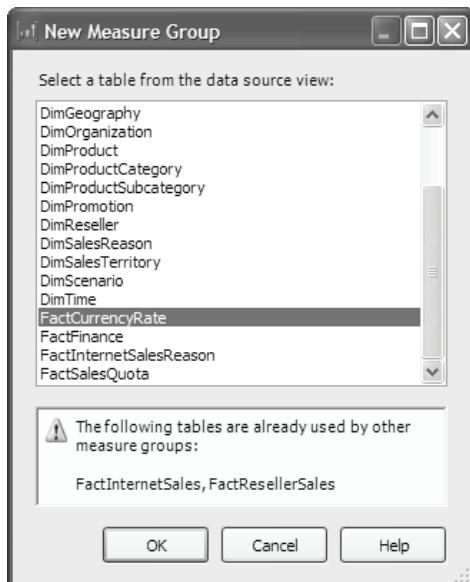

Figure 4.45 A new measure group can be created from an existing fact table.
1. Right-click anywhere inside the Measures pane and choose *New Measure Group*. The New Measure Group dialog is shown (Figure 4.45). Notice that the New Measure Group dialog excludes the fact tables already bound to existing measure groups. The reason for the validation is that it's generally a bad design practice to reuse a measure group since this will lead to duplication of storage space.